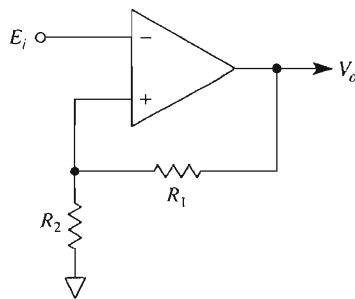

FIGURE P4-2
- 4-2. In Fig. P4-2, $R_1 = 25 \text{ k}\Omega$ and $R_2 = 5 \text{ k}\Omega$. Assume for simplicity that $\pm V_{\text{sat}} = \pm 15 \text{ V}$. Calculate (a) V_{UT} ; (b) V_{LT} ; (c) V_H .